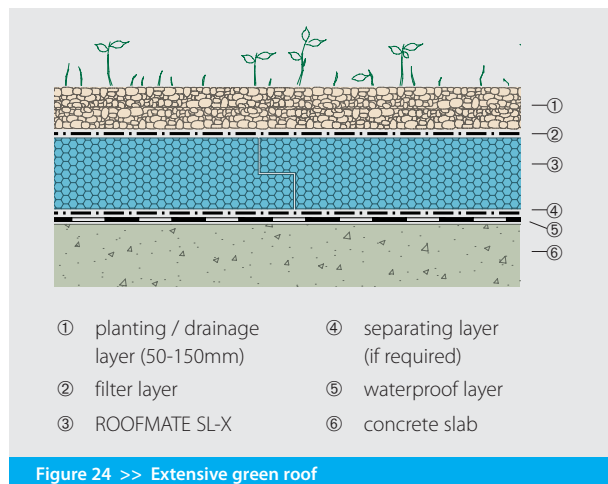

Figure 24 >> Extensive green roof
An inverted roof with ROOFMATE insulation is the ideal solution for 'green' roofs where landscaping or planting is provided. The insulation boards protect the waterproof layer and the planting provides necessary ballast (Figures 24 and 25).
- » **extensive:** using a thin plant-bearing layer (50-150mm) and hardy plants such as sedums and grasses. Extensive green roofs are not usually intended for access. Once the planting is established - which may take only a few months - it requires very little maintenance (Figure 24).